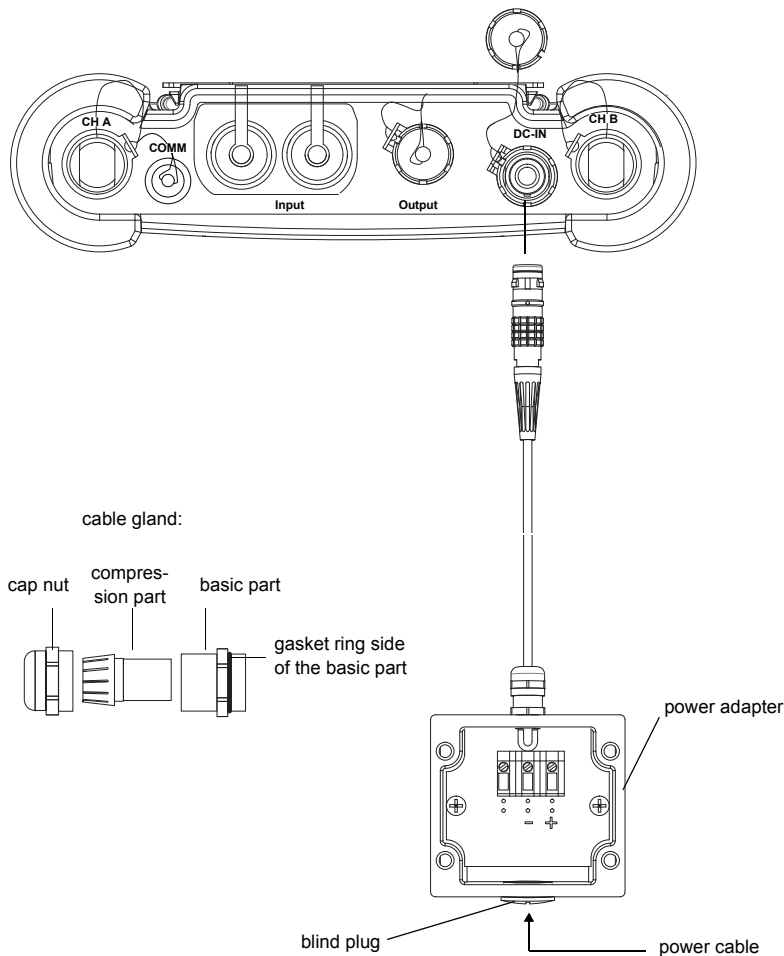

Fig. 7.13: Connection of the power adapter to the transmitter FLUXUS F608\*\*-A2
- Remove the blind plug (see Fig. 7.13).
- Push the cable through the cap nut, the compression part and the basic part of the cable gland (see Fig. 7.13).
- Connect the cable to the terminals of the power adapter (see Fig. 7.13 and Tab. 7.1).
- Connect the connector of the power adapter to the socket of the transmitter (see Fig. 7.13).